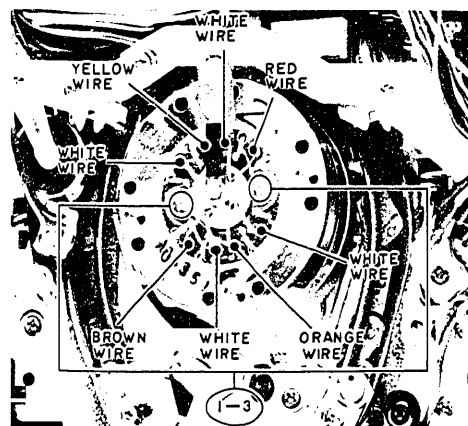

Fig. 19
1. Upper cylinder (video head) (Fig. 19)